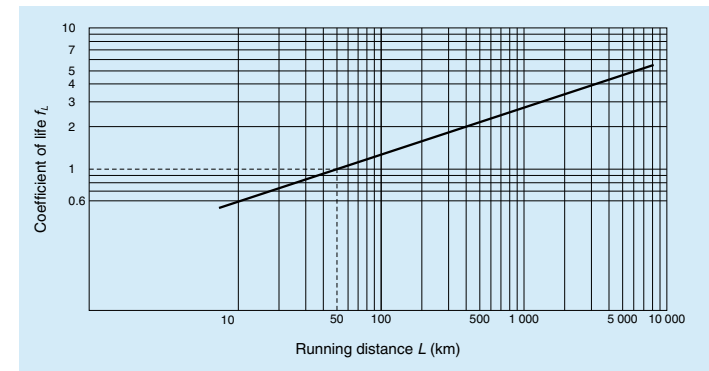
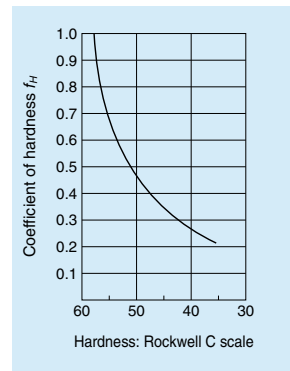

Fig. 5 Relationship between life factor and running distance
Fig. 6 Hardness factor
- P : Radial load (N)
- $f_L$  : Life factor (Refer to Fig. 5)
This formula is used provided that the shaft hardness is HRC58 or higher. Rated life is shorter if the shaft is softer. In this case, find the hardness factor *fH* from Fig. 6, and multiply the value.
From Fig. 5 and Fig. 6,